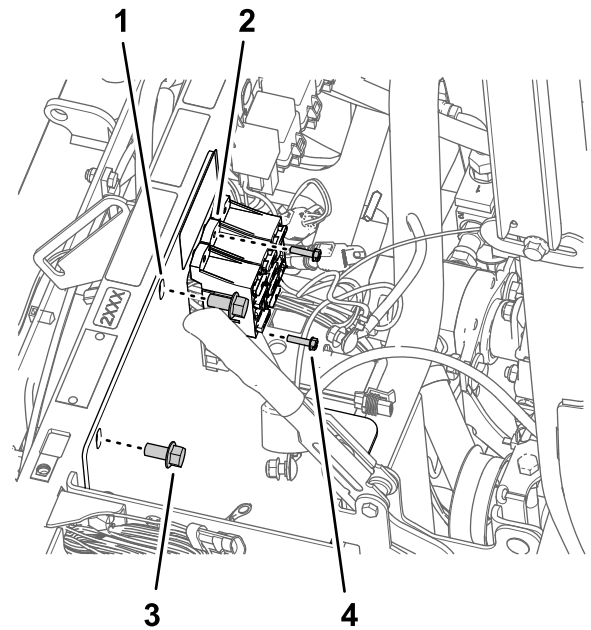

Figure 212
- 4. Remove the 3 bolts (10-24 x 3/4 inch) and 3 nuts (10-24) that secure the fuse blocks to the battery bracket (Figure 212).
- 5. Remove the 2 flange-head bolts (3/8 x 3/4 inch) that secure battery bracket to the shock-support tube of the machine (Figure 212).